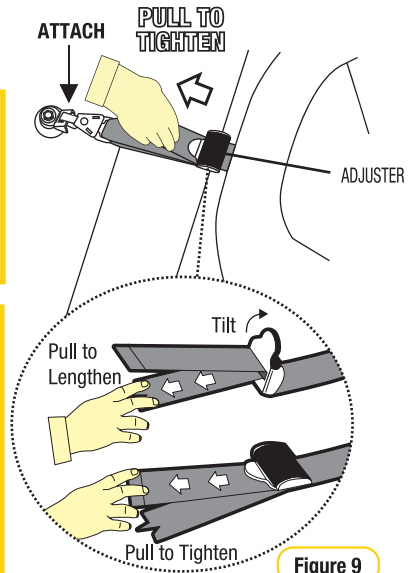

Figure 9
Step 6: Pull to tighten to remove all the slack, from the upper anchorage strap. Do not overtighten as this could cause the restraint to lift off the vehicle seat (refer to Figure 9).